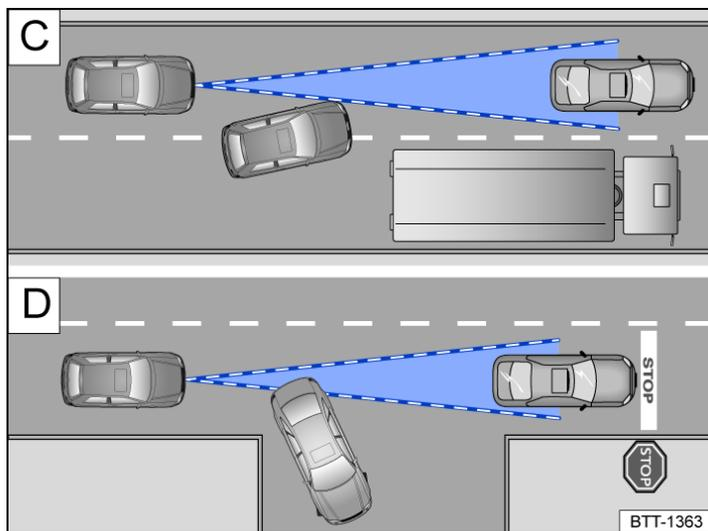

Fig. 2 **C** Vehicle changes lane. **D** Turning and stationary vehicle.
If a stationary vehicle is hidden behind a vehicle that has been detected by the adaptive cruise control and this vehicle turns off the road or changes lane, the ACC will not react to the stationary vehicle *→ Fig. 2 D*.
- Vehicles that change into your lane directly in front of your vehicle *→ Fig. 2 C*.